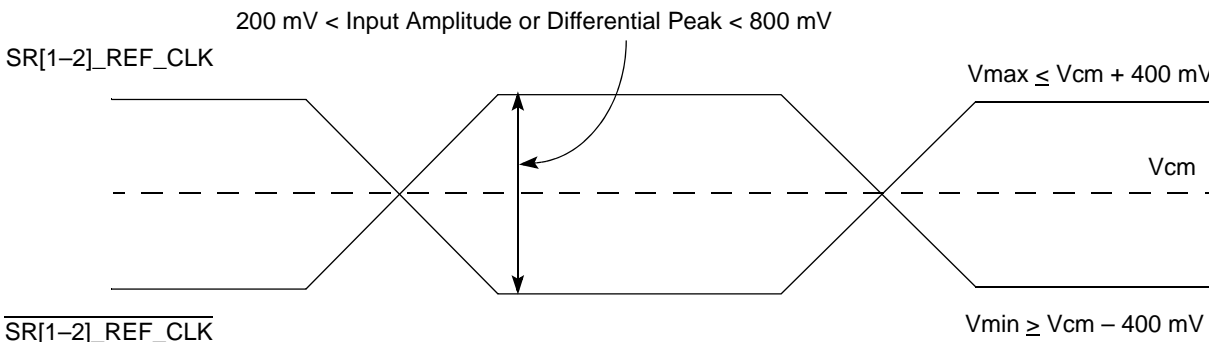

Figure 8. Differential Reference Clock Input DC Requirements (External AC-Coupled)
- For an external AC-coupled connection, there is no common mode voltage requirement for the clock driver. Because the external AC-coupling capacitor blocks the DC-level, the clock driver and the SerDes reference clock receiver operate in different command mode voltages. The SerDes reference clock receiver in this connection scheme has its common mode voltage set to GND_{SXC} . Each signal wire of the differential inputs is allowed to swing below and above the command mode voltage GND_{SXC} . **Figure 8** shows the SerDes reference clock input requirement for AC-coupled connection scheme.